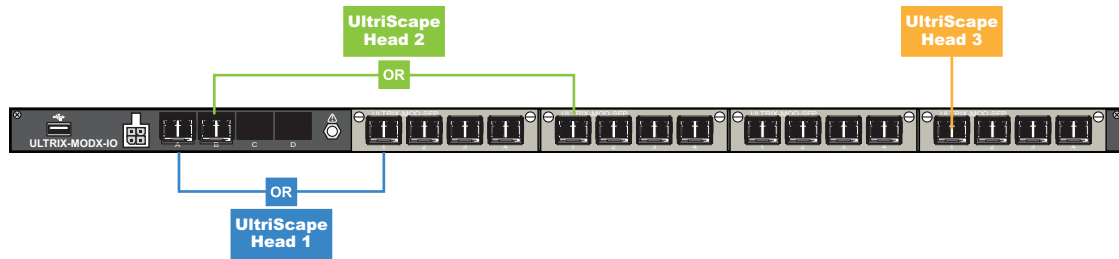

Figure 36 Example of UltraScape Head Mapping on a Single ULTRIX-MODX-IO Blade
- One Multiviewer Head (refer to **Figure 36**)
Figure 36 illustrates the connections allocated for UltraScape Heads on an ULTRIX-MODX-IO with four ULTRIX-MOD-SFP.